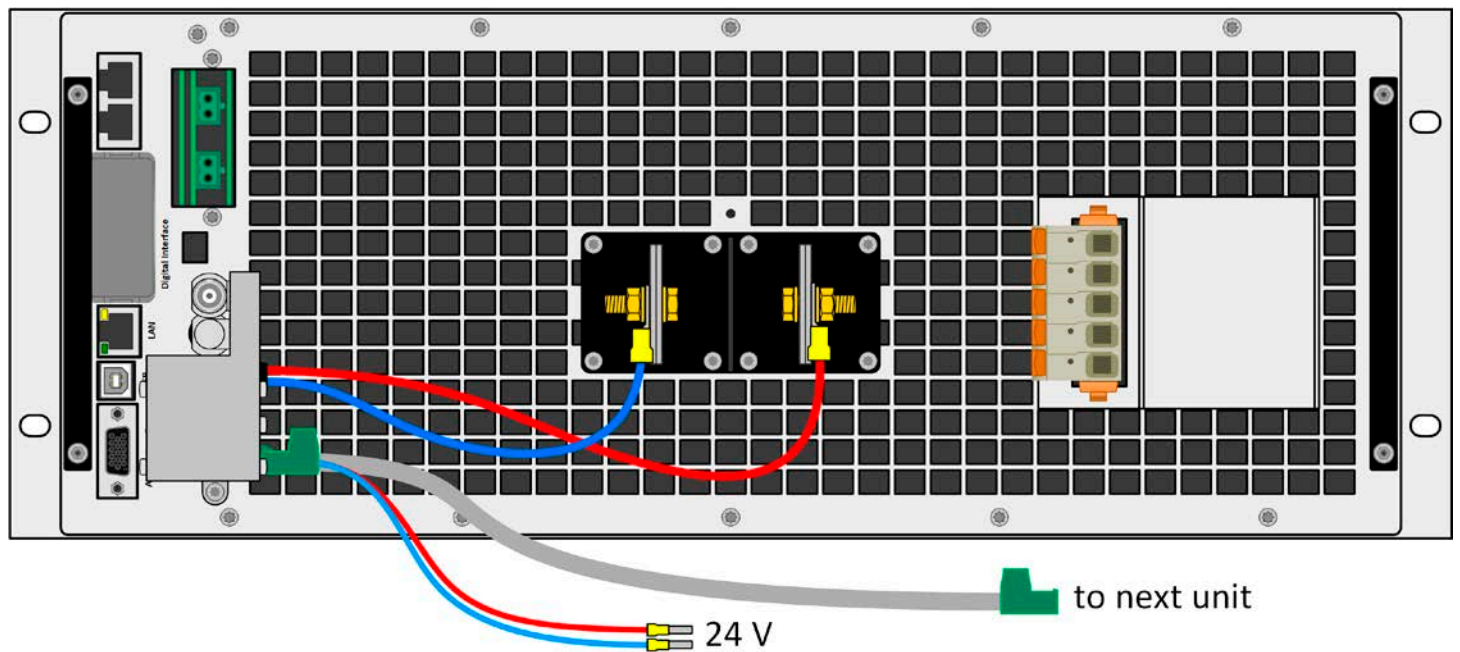

Figure 9 - Installation position and cabling
2. Plug the BNC connectors A (see images above) of the SCB modules to the upper Share bus sockets labeled "Share BUS Input". See Figure 9 for correct placement.
4. Connect the voltage monitoring cable (red/blue), which comes out of the SCB, to the DC terminal with correct polarity (red = DC+, blue = DC-), as depicted in Figure 9.